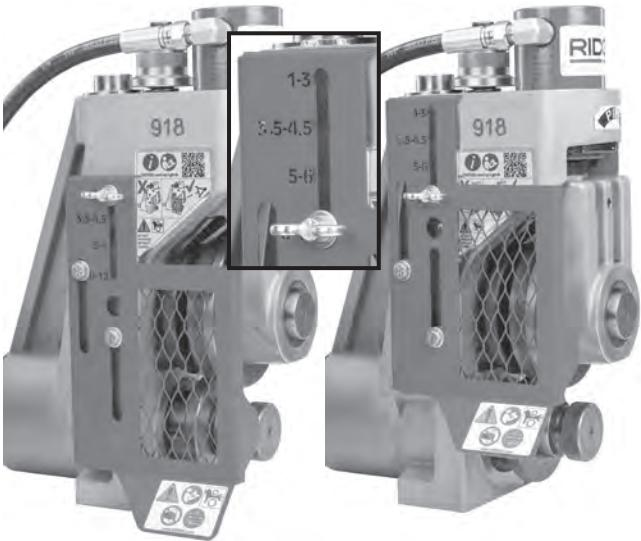

Figure 12 – Setting Adjustable Guard
3. Loosen the wing-screw. Adjust the position of the guard so that the correct range of sizes aligns with the position of the wing-screw. Properly adjust guard to reduce the risk of entanglement and serious injury (Figure 12).